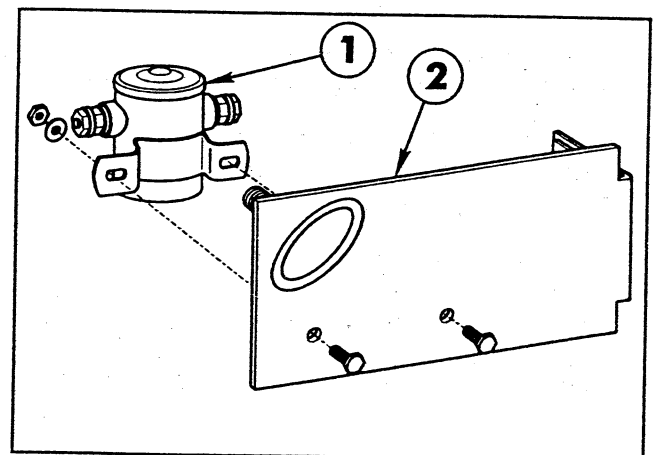

FIG. 9
1. Assemble the Relay to the Relay Mounting Bracket with the two (2) 1/4" x 5/8" washer hd. self-tap screws, lock washers and hex nut as shown in FIG. 9.